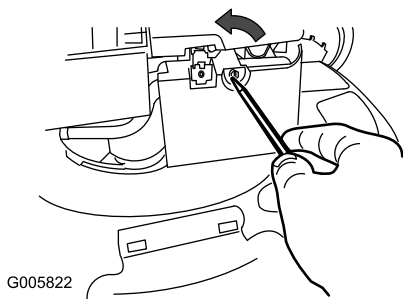

Figure 19
1. Use a screw driver to open the air filter cover (Figure 19).